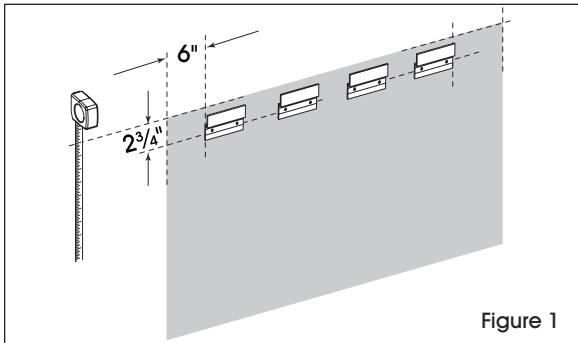

Figure 1
1. Determine board location. Position top hanging brackets 6" from outside edge of board with bracket holes  $2\frac{3}{4}$ " from top of board. (See Figure 1)